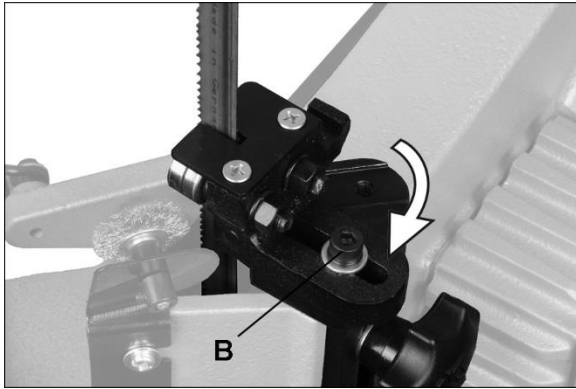

Figure 8-2: lower blade guide rotation (712D only)
- 3) The blade guide brackets can be rotated to facilitate a more comfortable operating position while in vertical mode. Remove screw (B, Figure 8-2) with 6mm hex key and position bracket in adjacent channel. Re-install screw.